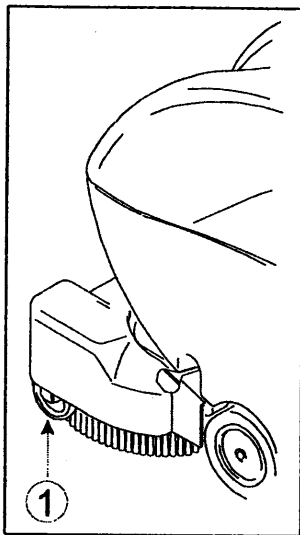

Fig. 8
The machine is equipped with the small carriage wheel (fig. 8, ref. 1); to move the machine, it is sufficient to lower the small carriage wheel, perform the following operations:
- If necessary, correct any tendency of the machine to deviate from the straight direction by acting on the direction adjusting knob (fig. 8, ref. 8): refer to the label attached next to the knob to correct the advance direction;